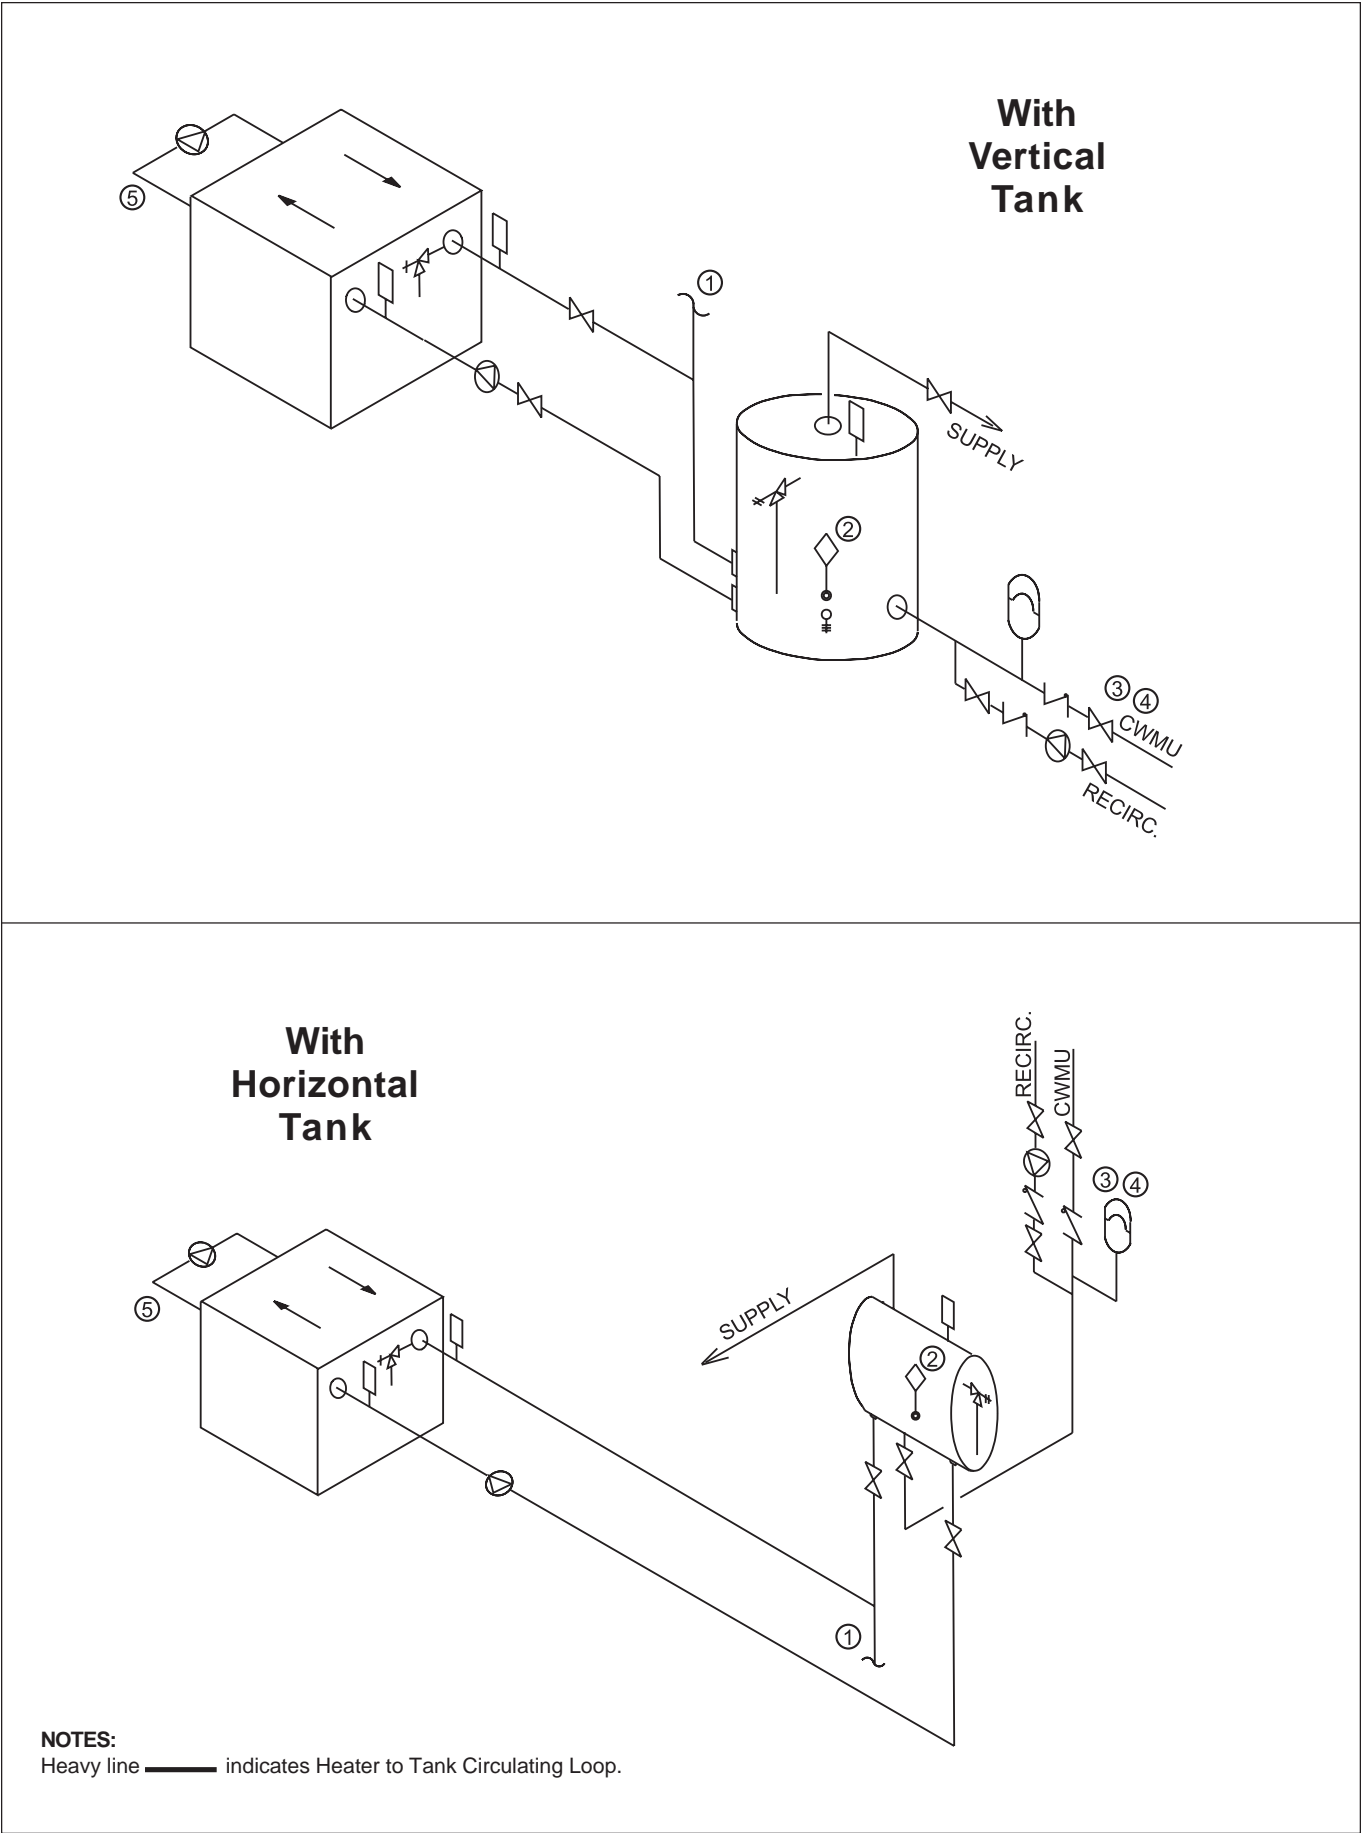

Figure 11. Hot Water Supply System (Model VW & PW).
1. The factory provided pump on **PW** heaters and the recommended field provided pump for model **VW** heaters are sized to provide proper circulation through the heater and heater-to-tank circulation loop (see Figures 11 and 12). If the heater-to-tank circulating loop **does not contain more than 6 elbows or 30 feet of pipe**, use pipe fittings in the loop no smaller than the following: